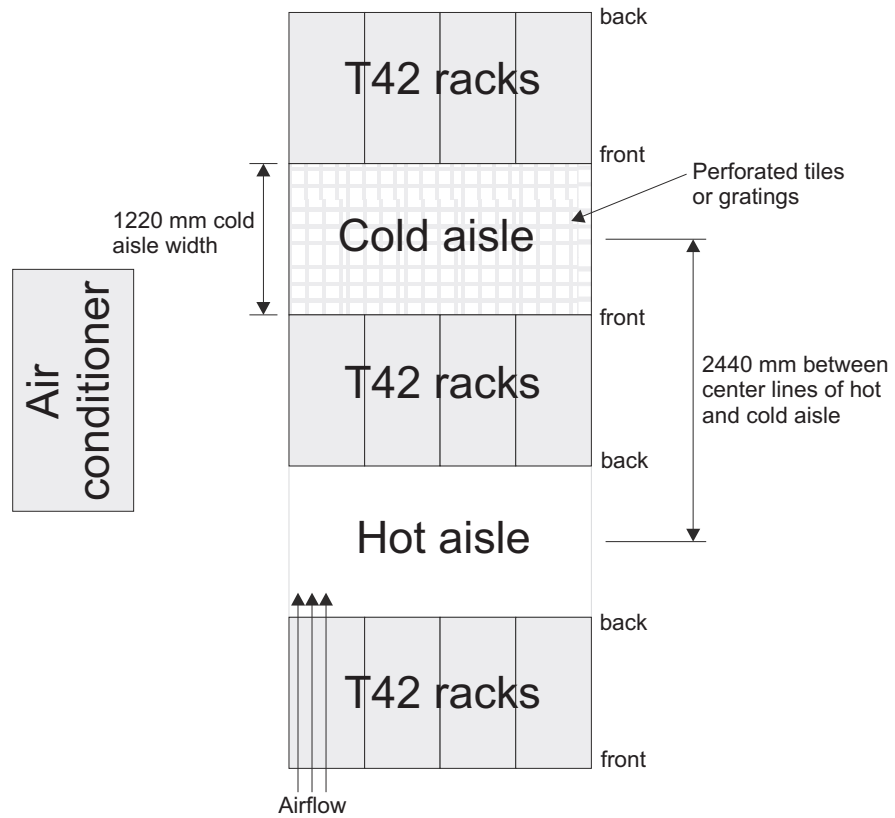

Figure 8. Example of cold aisle/hot aisle rack configuration
- Air enters at the front of the rack and leaves at the back. To prevent the air that is leaving the rack from entering the intake of another piece of equipment, you must position the racks in alternate rows, back-to-back and front-to-front. This arrangement is known as *cold aisle and hot aisle* and is shown in Figure 8 on page 19.